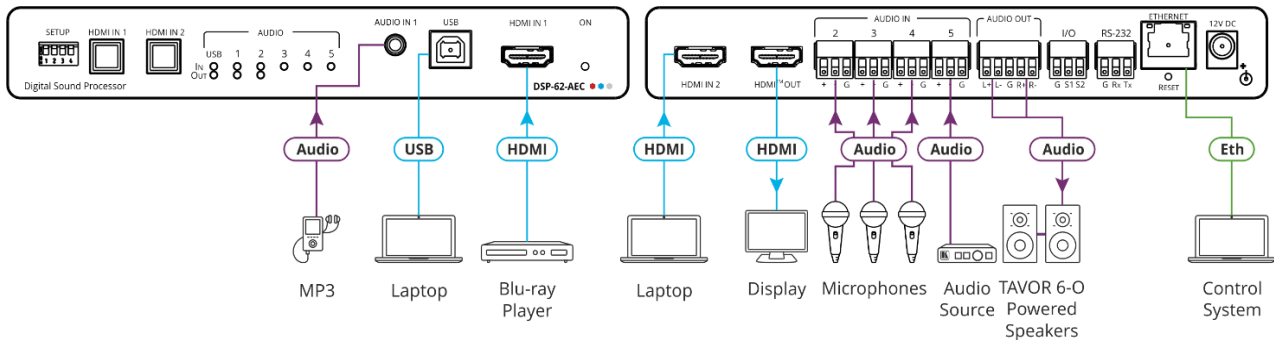

Figure 5: Connecting to DSP-62-AEC
To connect DSP-62-AEC as illustrated in Figure 5:
1. Connect an unbalanced stereo audio source (for example, an MP3 device) to the AUDIO IN 1 3.5mm mini jack (6).
2. Connect a USB source (for example, a laptop) to the USB host port (7).
3. Connect an HDMI source (for example, a Blu-ray player) to the HDMI IN 1 connector (8).
4. Connect an HDMI source (for example, a laptop) to the HDMI IN 2 connector (10).
5. Connect up to 4 balanced mono audio sources (for example, microphones) to the AUDIO IN 3-pin terminal block connectors (13).
6. Connect the HDMI OUT connector (12) to an HDMI acceptor (for example, a display).
7. Connect the AUDIO OUT 5-pin terminal block connector (14) to a balanced stereo acceptor (for example, a powered speaker).
8. Connect a control system to the ETHERNET RJ-45 port (17).
9. Connect the 12V DC power adapter to DSP-62-AEC to the mains electricity (not shown in Figure 5).